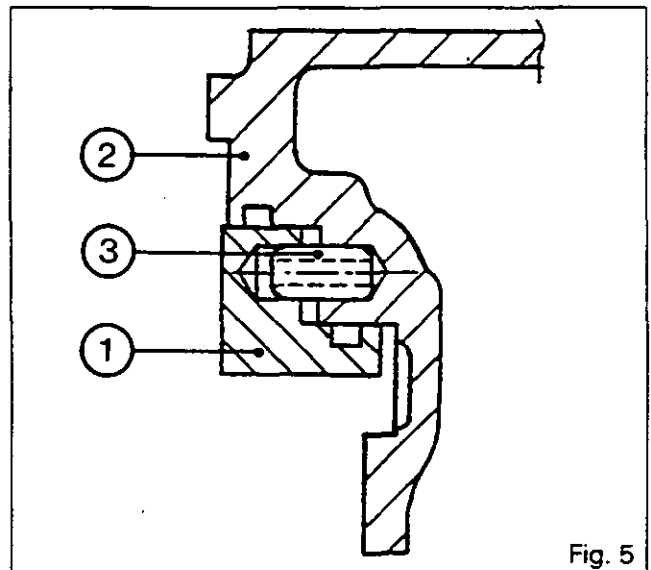

Fig. 5
6. Remove the O-rings (1) and (2) on the centre housing and discard them.
8. Fit the piston (1) without seals in the housing (2) (Fig. 5).
Note : Check that the piston slides freely in the bore of the housing and over the dowels (3) without binding (Fig. 5).